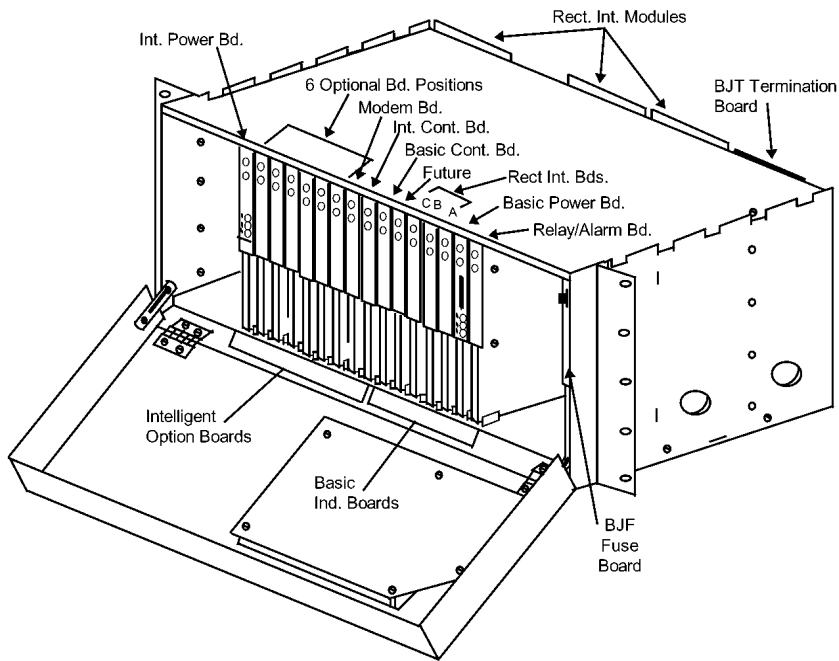

Figure 5-1 Galaxy SC Controller circuit board locations
### For Galaxy SC Controllers (see Fig 5-1, 5-2)
1.	Open the front door of the Galaxy SC controller. Is a BJC3 circuit board installed in BJCA, B, or C slots, located on the right side of the card cage? .See Figure 5-1, . 5-2